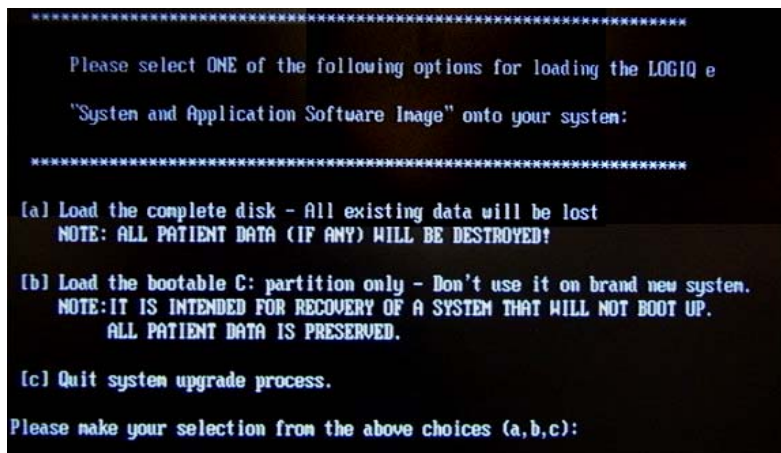

Figure 8-79 Selection for loading the system
- 8.) Select one of the options for loading the system. Select choice [a] to load the complete disk. Refer to Figure 8-79 on page 8-82.